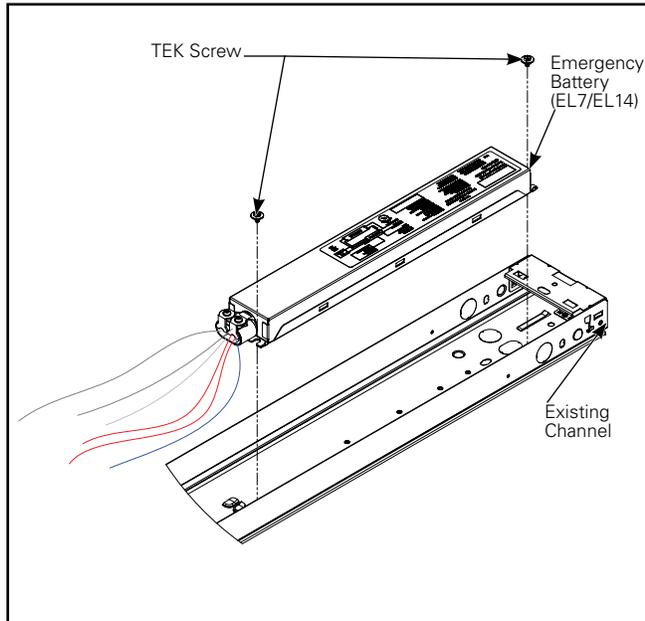

Figure 6.
1. EM UNIT - Install EM unit into existing fixture channel. EM unit should be mounted so that there is sufficient cable length to make all connections to LED driver and EM test switch. Mount EM unit on the opposite end of the channel, so it will not interfere with the driver that is attached to the gear tray. (Figure 6.)